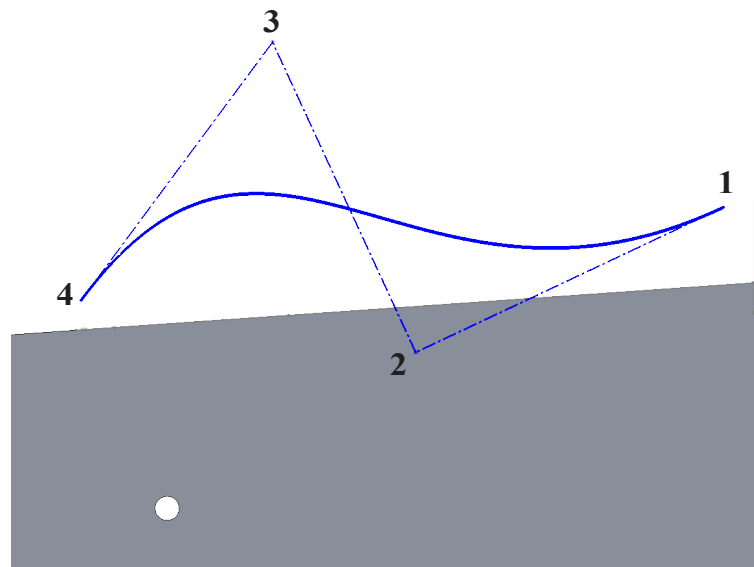

Fig. 49
Step 5. Sketch a **4 control vertex point Spline** above the body, **Fig. 49**. Keep spline endpoint away from any geometry. Press Escape to end spline.